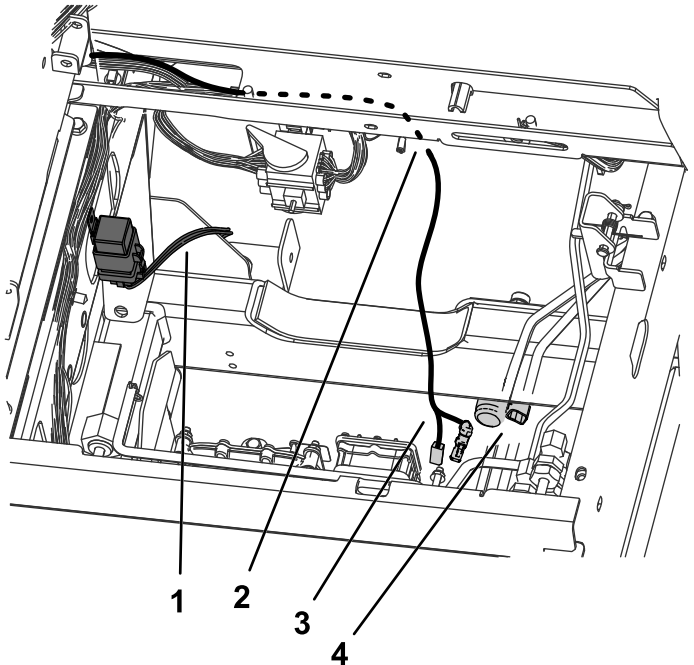
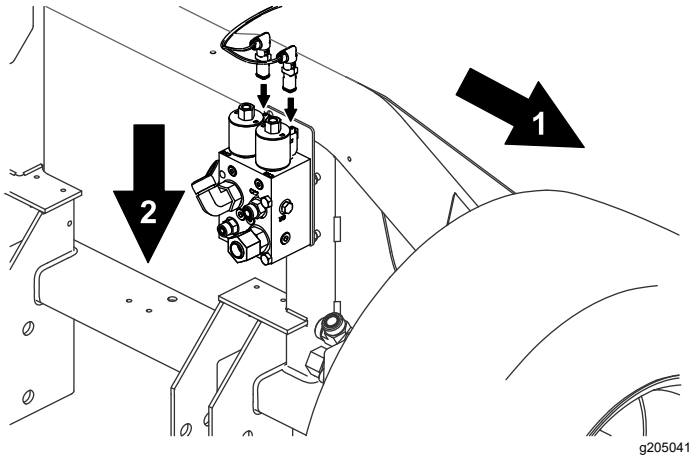

Figure 28
Figure 32
9. Route the 2 remaining wires that are not directly attached to the relay halfway along the existing wire harness under the frame until directly above the 3-way manifold (Figure 28).
13. Route the remaining loose harness ends down around the lower frame and connect them to 2 coils on the flow-divider manifold just inside of the right, front tire (Figure 28 and Figure 32).